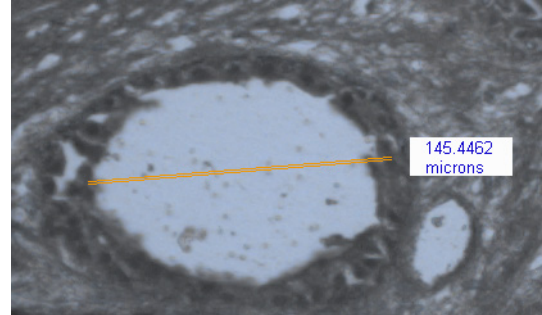

Figure 46 Ruler measurement.
3. The software draws a line and displays a label showing the length of the line (see Figure 46).